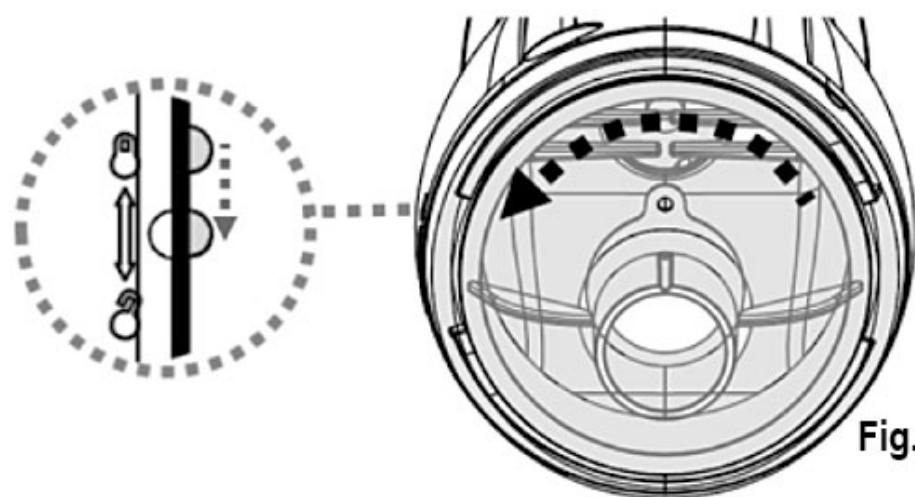

Fig.1
2. Hold the electric vacuum body and turn the canopy anticlockwise until the white marking on the canopy reaches the lock-unlock marking. (Fig.1)